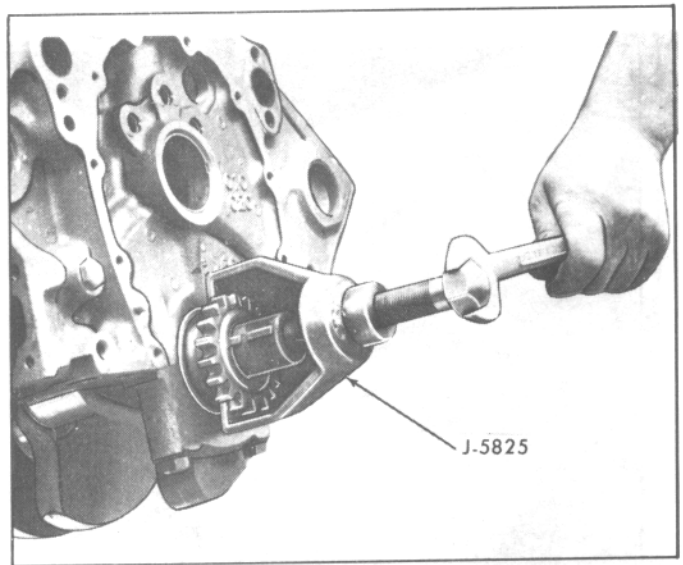

Fig. 58. Removing Crankshaft Sprocket "Small V8"
1. For removal of crankshaft sprocket or gear use tool J-5825 (Fig. 58).